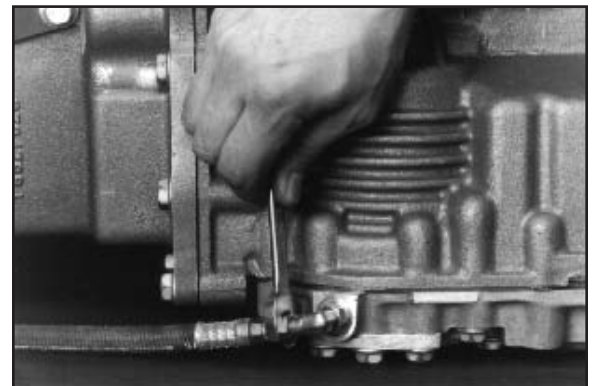

Fig. 12
- Securely attach the high pressure line to the elbow fitting at the transmission high pressure port and torque to 11-12 lbs-ft [15-16 Nm]. This fitting is included with the PTO (**Fig. 12**).